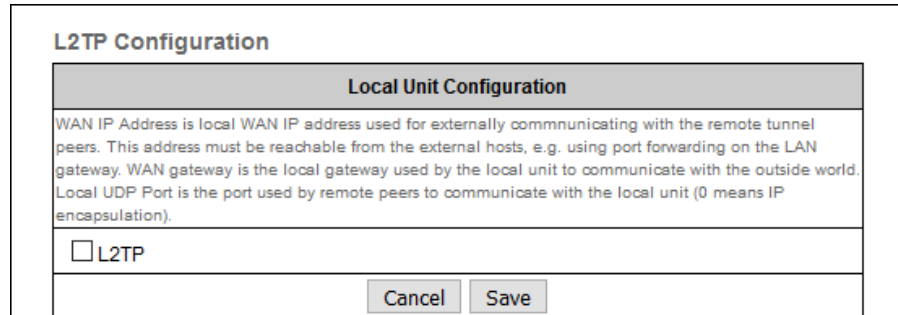

Figure 46. Configurator GUI (L2TP Configuration dialog)
- The **L2TP Configuration** dialog will be shown (Figure 46 \(page 113\)).